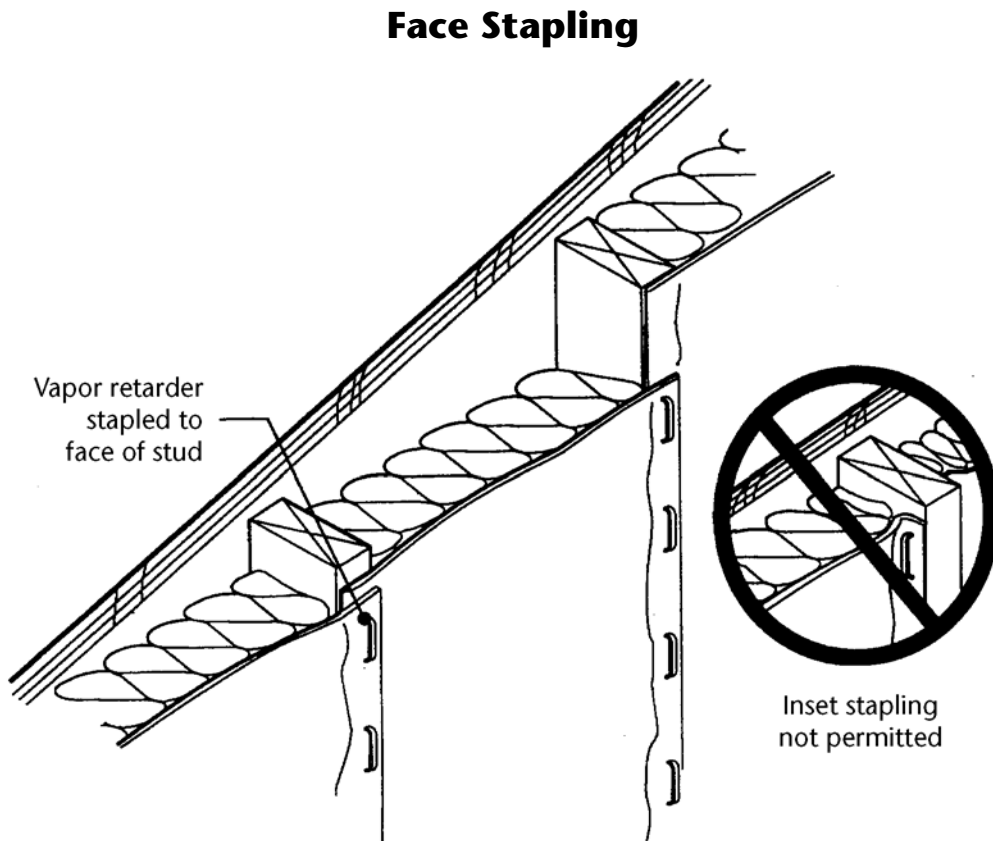

Figure 4-3
**Inset Stapling Faced Batts is not Allowed.** If faced batts are used (kraft paper or foil facing material) and if they have a stapling tab, they must be stapled directly to the face of the stud. Stapling to the side of the stud compresses the insulation and creates a convective air channel that reduces the effectiveness of the insulation (see Figure 4-3).